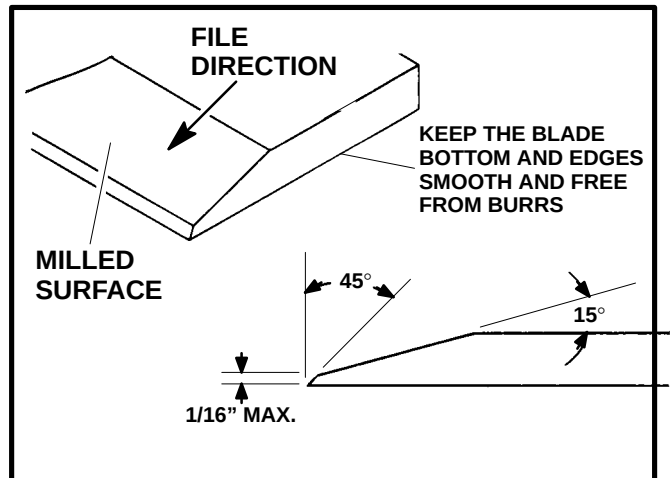

Figure 49
20. After installation of pulley shaft, check for proper clearance between dog clutch faces. With the blade shifter handle "Engaged", measure between the dog clutch faces. Remove or add shims to obtain .015" (.39 mm) clearance. See Figure 49.
Hand file the bottom blade using the illustration below (Figure 49) as a guide. To keep the cutting edge less than 1/16" on a 45° angle, grind the milled surface at a 15° angle.